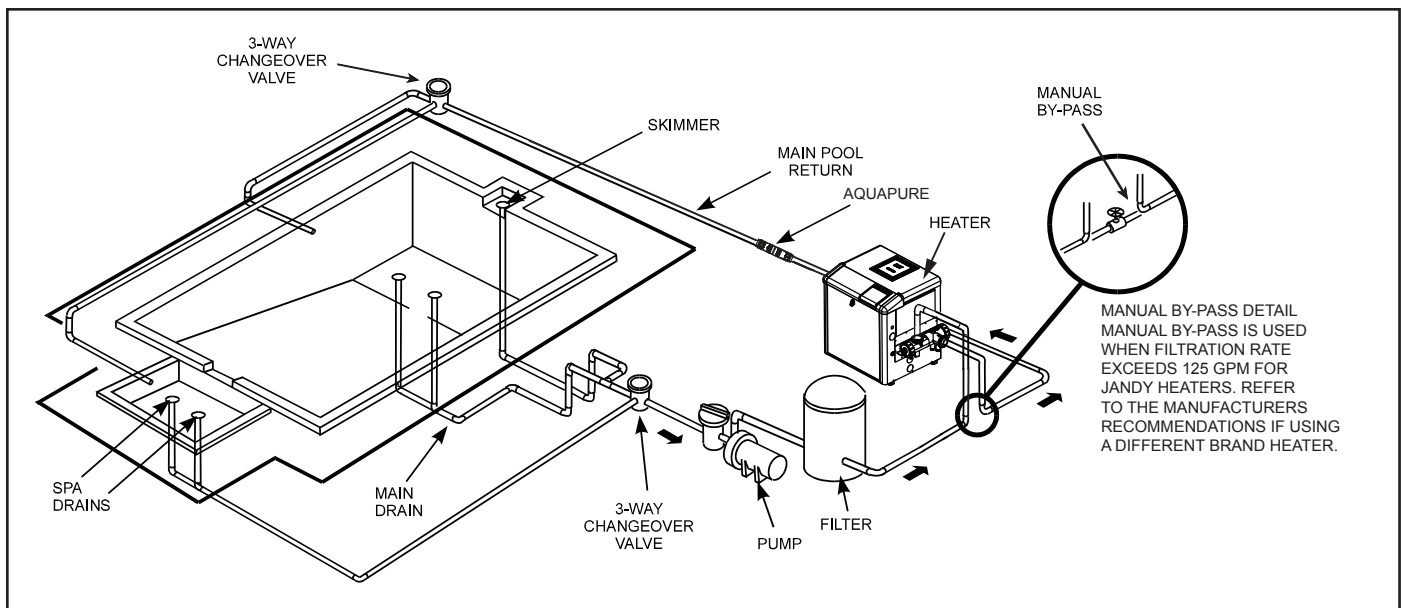

Figure 2. Typical Piping Installation
1. Zodiac® recommends installing the pump within one (1) foot above water level. Refer to Figure 2 for a typical installation. The pump should not be elevated more than three (3) feet above or below the water level of the pool.
- The ePump + SVRS must be connected to at least two (2) hydraulically-balanced suction outlets (suction outlets) for each pool pump suction line. Refer to Figure 2. Each drain must be provided with covers that are listed or certified to the latest published edition of ANSI®/ASME® A112.19.8 or its successor standard, ANSI/APSP-16. The suction outlets of the suction outlets must be at least three (3) feet apart or at different planes. The suction outlets can be a drain and skimmer, two (2) drains, two (2) skimmers, or a skimmer with an equalizer line installed. For additional details and guidelines, refer to ANSI/APSP 7, the standard for Suction Entrapment Avoidance in Swimming Pools, Wading Pools, Spas, Hot Tubs, and Catch Basins. Check the local codes for proper installation requirements. Applicable local codes will take precedence over other codes.